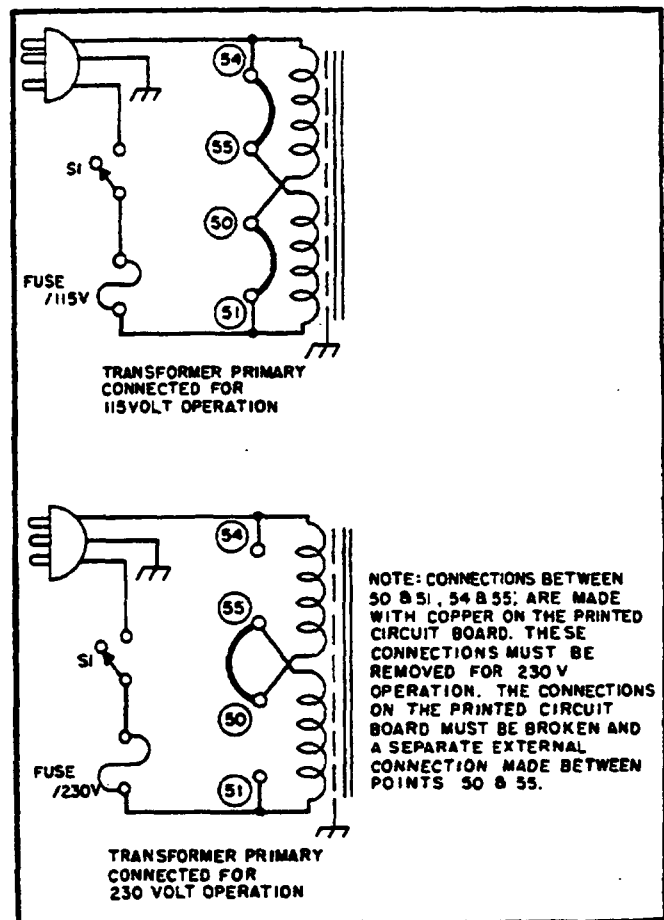

Figure 2-1. Primary Connections
2-15 CONNECTIONS FOR 230 VOLT OPERATION (Figure 2-1)
b. Break the copper between 54 and 55 and also between 50 and 51 on the printed circuit board. These are shown in Figure 2-1, and are labeled on copper side of printed circuit board.